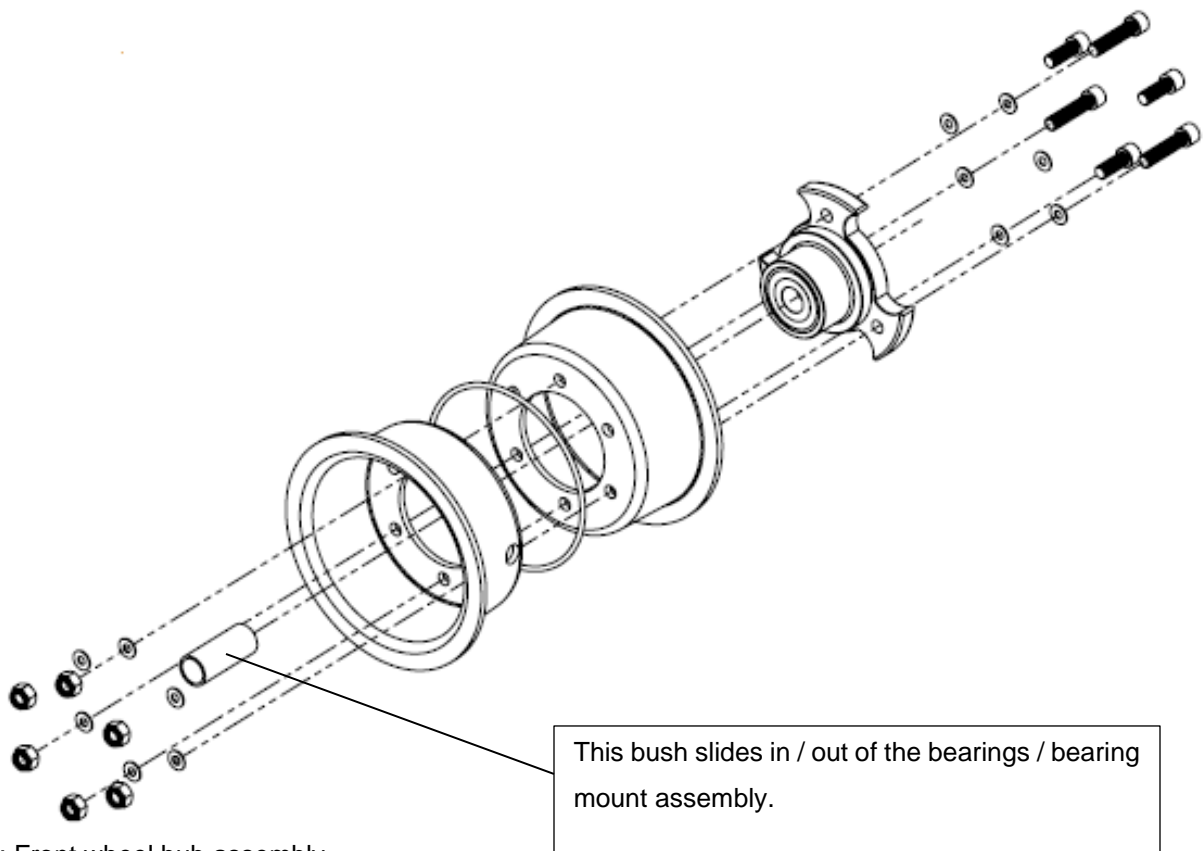

Figure 40: Front wheel hub assembly.
2. Push out the bush (refer to Figure 40).
3. Insert the bush (Figure 40).